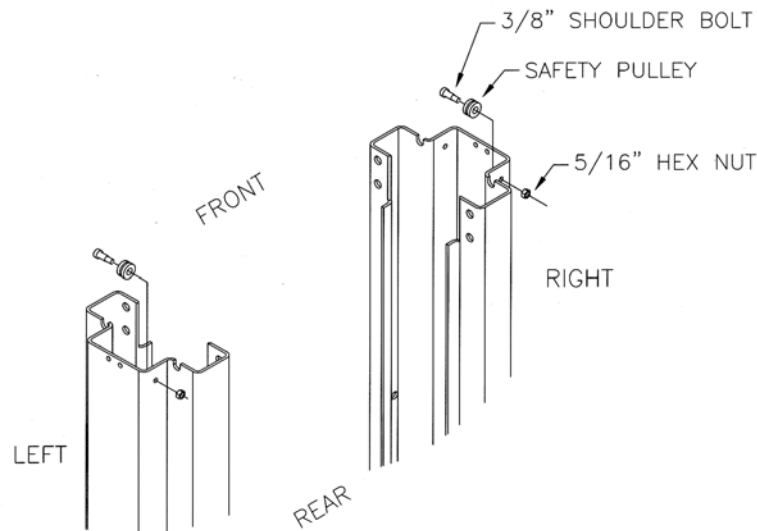

Figure 6 - Safety Release Pulley Installation
1. Install the safety pulley on each tower as shown in **Figure 6**.